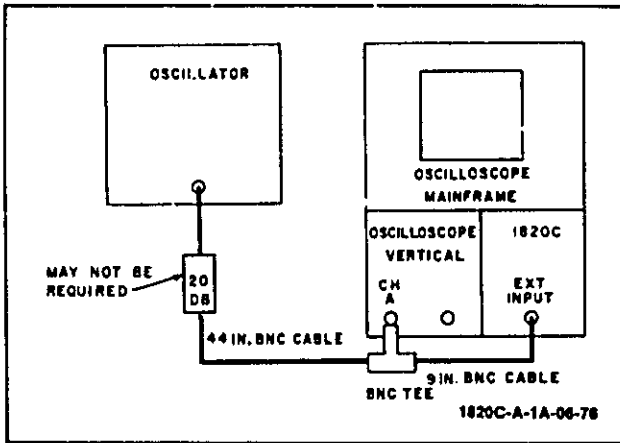

Figure 5-1. Trigger Sensitivity Test Setup
5-17. EQUIPMENT. See figure 5-1 for equipment required.
a. Connect equipment as shown in figure 5-1.
5-22. EQUIPMENT. See figure 5-1 for equipment required.
- a. Connect equipment as shown in figure 5-1.
5-27. EQUIPMENT. See figure 5-1 for equipment required.